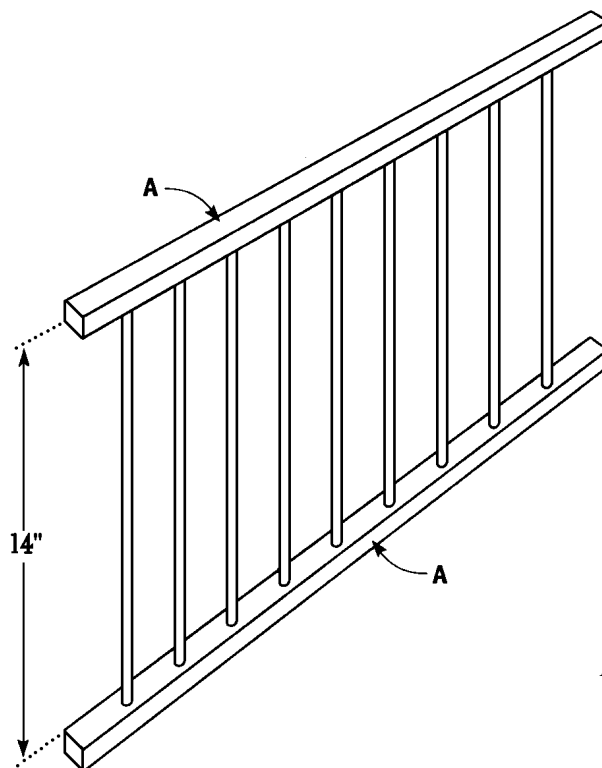

Figure 2
3. Use the drilled Rack Support (A) as a template to drill holes in each of the remaining three Rack Supports (A).
4. Cut 18 Rack Rods (B) from 3/8"-diameter dowel rod, each measuring 14 inches.
5. Place one Rack Support (A), with holes up, on a flat surface. Apply glue to one Rack Rod (B), and insert it in the first hole in the Rack Support (A). Make certain that the Rack Rod (B) is completely through the hole, and flush with the bottom surface of the Rack Support (A).
6. Repeat Step 5 eight more times to insert eight more Rack Rods (B) in the first Rack Support (A). Let the glue set up for several hours.
7. Place a second Rack Support (A) on a level surface. Turn the Rack Rod/Support assembly upside-down, Apply glue to the exposed ends of each of the Rack Rods (B), and insert them in the corresponding holes in the second Rack Support (A) to form a ladder arrangement, as shown in *Figure 2*.
8. Repeat Steps 5 through 7 to assemble the second rack assembly, using the remaining nine Rack Rods (B), and remaining Rack Supports (A).